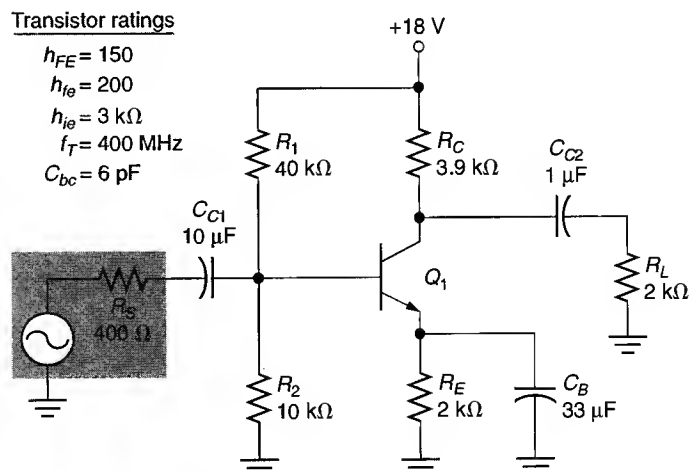

FIGURE 14.39
46. Calculate the change in f_0 that occurs in the circuit in Figure 14.39 if the load resistance opens.